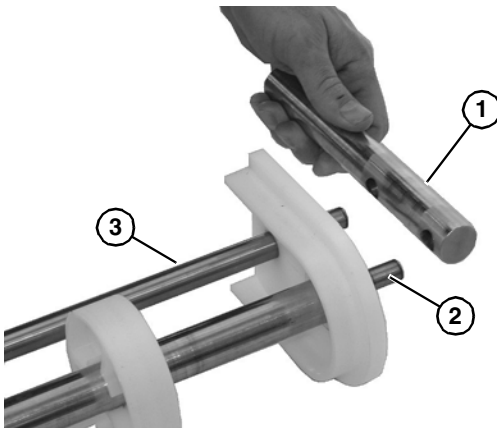

Figure 58
2. Remove the bearing end rod (**Figure 58, item 1**) from idler shaft (**Figure 58, item 2**) and pinch guard shaft (**Figure 58, item 3**).